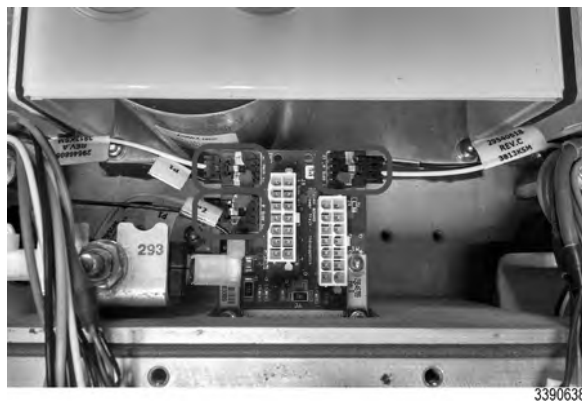

Figure 6. Three (3) HVIL Connector Removal
2. Disconnect the three (3) HVIL switch connectors from the signal interface card (refer to Figure 6) by releasing the clip and pulling the connectors out from headers. Do not pull on the wires. Make note of which connector goes to each header on the card.